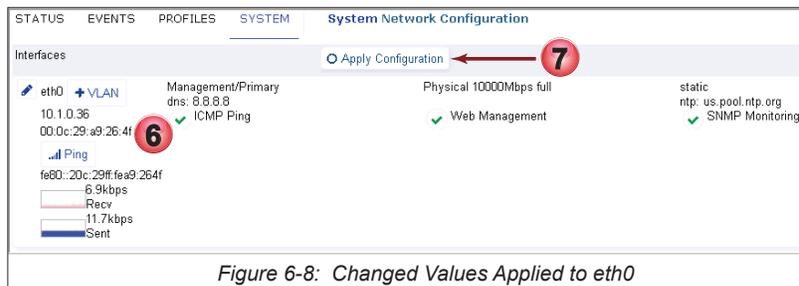

Figure 6-8: Changed Values Applied to eth0
6. When saved, eth0 values are changed but not yet activated on the Server, Figure 6-8.